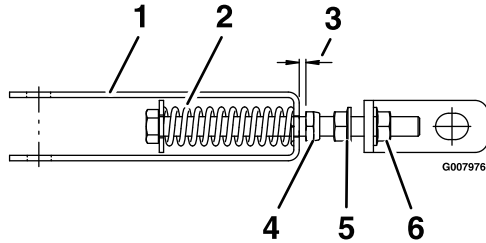

Figure 15
- Engage the park brake. Measure the gap between the thin nyloc nut and the park brake clevis. The gap should measure 1/8 inch (3.2 mm) (see Figure 15).